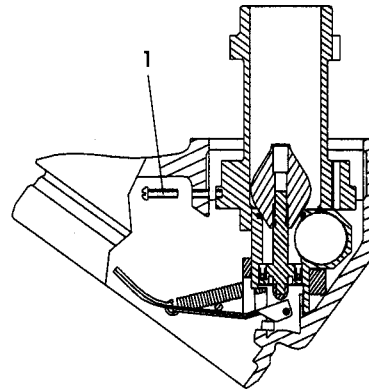

Figure 6
- Using Posi-drive screwdriver, remove retaining screw. (1) (Figure 6)
DO NOT attempt to remove push-in connector unless screw (1) (Figure 6) is removed from demand regulator body.
- Push end of banjo (2) and extract banjo/hose assembly (2) from demand regulator. (Figure 6)
- Refit retaining screw (1) (Figure 6) ensuring it enters aligned space in castellation.
- If lever does not retract easily, remove screw (1) (Figure 6), rotate connector counterclockwise to next space in castellation.